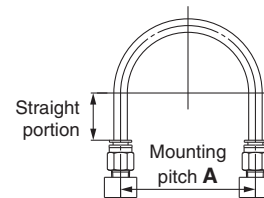

Fig. 1 Recommended piping configuration Unit: mm
1. When connecting tubes using One-touch fittings, provide some spare tube length shown in Fig. 1, recommended piping configuration.